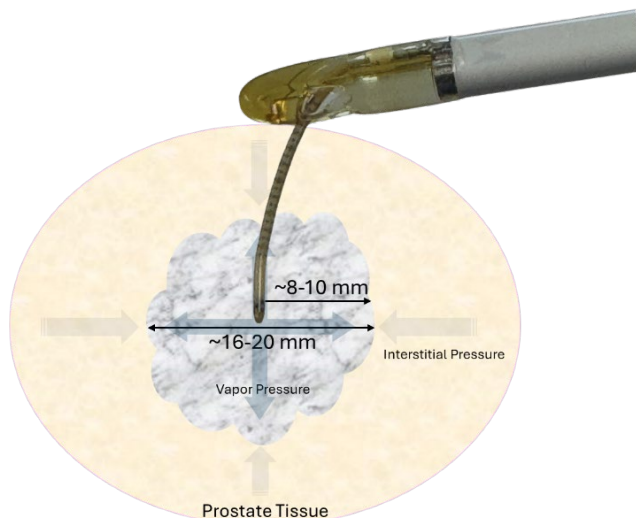
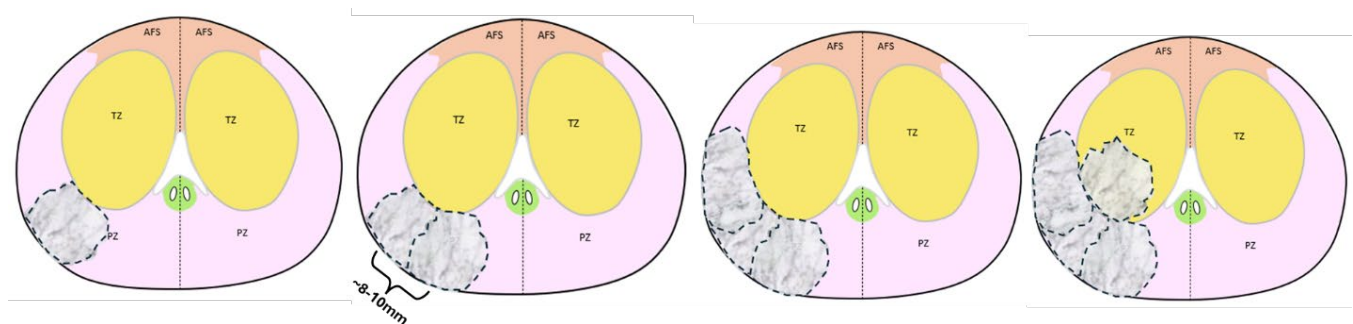
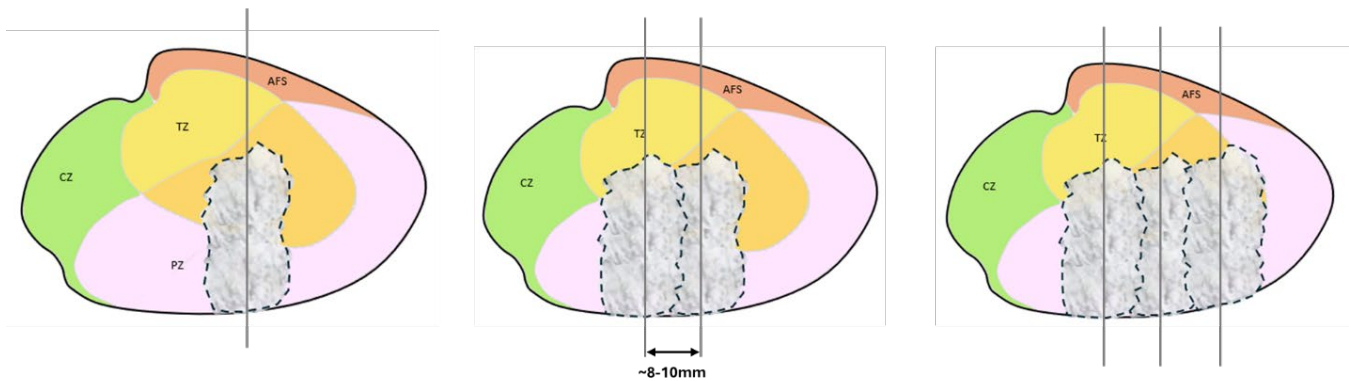

Figure 12-25: Approximate Size of a Single Vapor Treatment in Unencumbered Space
Figure 12-26: Overlapping Treatments in the Axial (Transverse) Plane
Figure 12-27: Overlapping Groups of Treatments in the Sagittal Plane
■ **NOTE:** A single vapor treatment in unencumbered space will cover a radius of 8-10 mm (0.3-0.4 in) (**Figure 12-25**). Therefore, adjacent treatments should be placed approximately 8-10 mm (0.3-0.4 in) apart to allow for overlap of the ablation zones and full coverage of the targeted tissue (**Figure 12-26** and **Figure 12-27**).